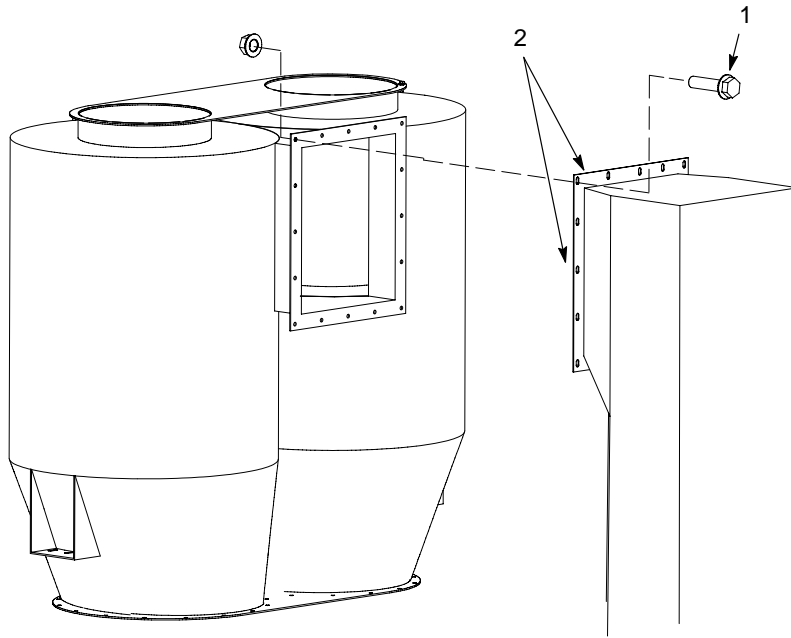

Figure 13 Connecting Cyclone to Extraction Duct
- 8. See Figure 13. Apply a bead of RTV sealant to the extraction duct outlet flange.